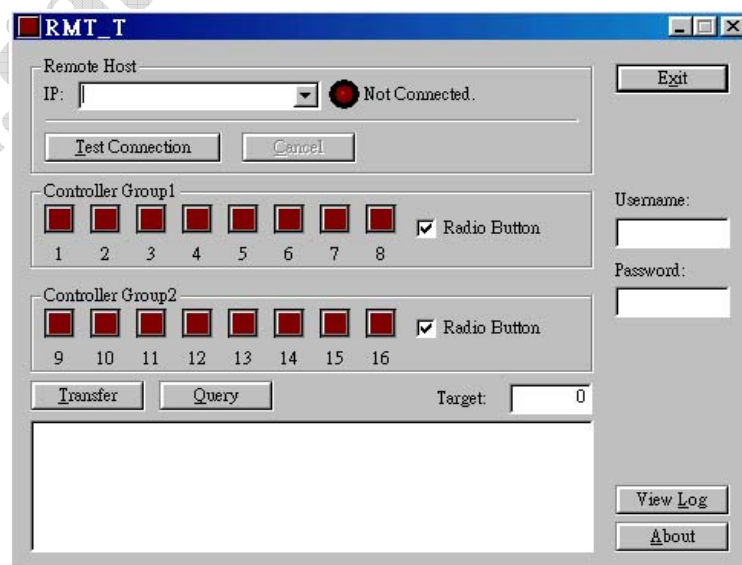

Fig. 12
- (1) It is much easier to install control-end computer after you finish set-up the branches and received-end computer.
- (2) Execute RMT_BOSS_SETUP.EXE on CD for installation. After installation, you will see "RMT_BOSS" icon on the desktop.
- (3) Execute "RMT_BOSS", you will see picture as Fig. 12 shows: